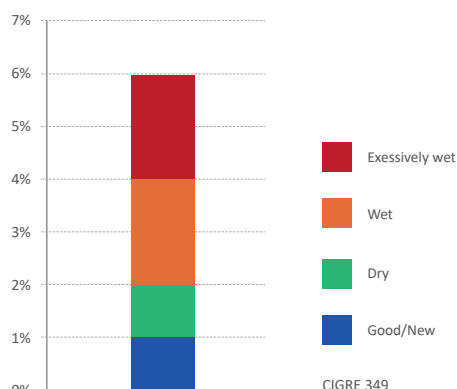

Figure 7. Water content in paper in %
- Based on the Oomen curve calculation the trend of the water content in paper can be followed (see figure 7)